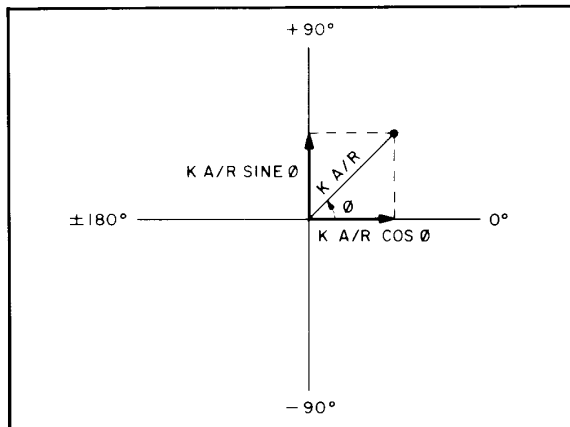

Figure 8-80. Polar Display
For a polar display, the 8754A displays a polar plot of the relative magnitude and phase of the A and R input signals. Instead of displaying magnitude, or phase, versus frequency, the polar display represents magnitude versus phase, where magnitude is the radial distance (M) from the center of the display and phase is the angular rotation ( $\theta$ ) from the horizontal zero degree axis. The magnitude and phase of the polar signal must be resolved into X (horizontal) and Y (vertical) components as shown in Figure 8-80. These X and Y signals are applied to the horizontal and vertical deflection plates producing a dot on the CRT representing the arrowhead of the vector.